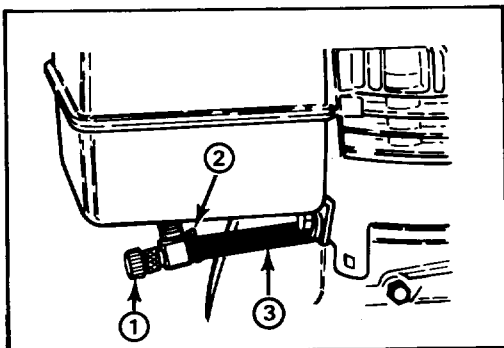

Figure 21
1. Close fuel shut-off valve located under engine (Fig. 21).
3. Loosen hose clamps securing fuel line to valve and slide line off valve (Fig. 21).